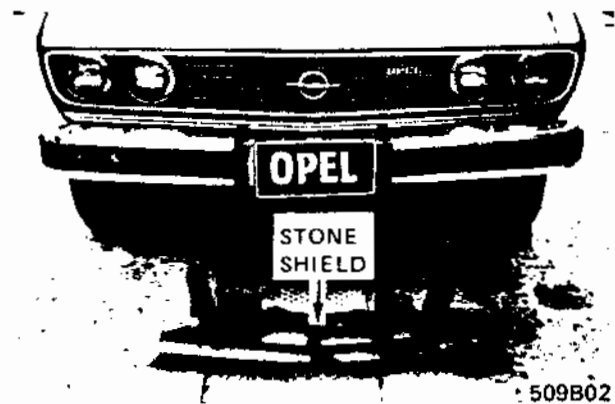

Figure 9B-2 Sheet Metal Stone Shield Removed
6. Unplug compressor clutch electrical plug and remove ground wire. See Figure 9B-3.